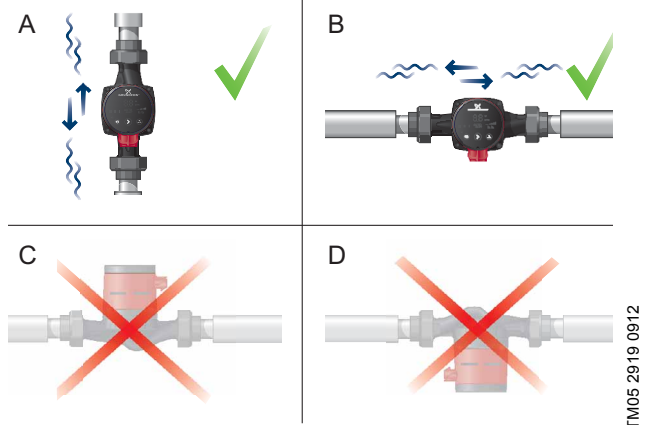

Fig. 6 Control box positions
- Pump installed correctly in a vertical pipe. See fig. 6, pos. A.
- Pump installed correctly in a horizontal pipe. See fig. 6, pos. B.
- Do not install the pump with vertical motor shaft. See fig. 6, pos. C and D.